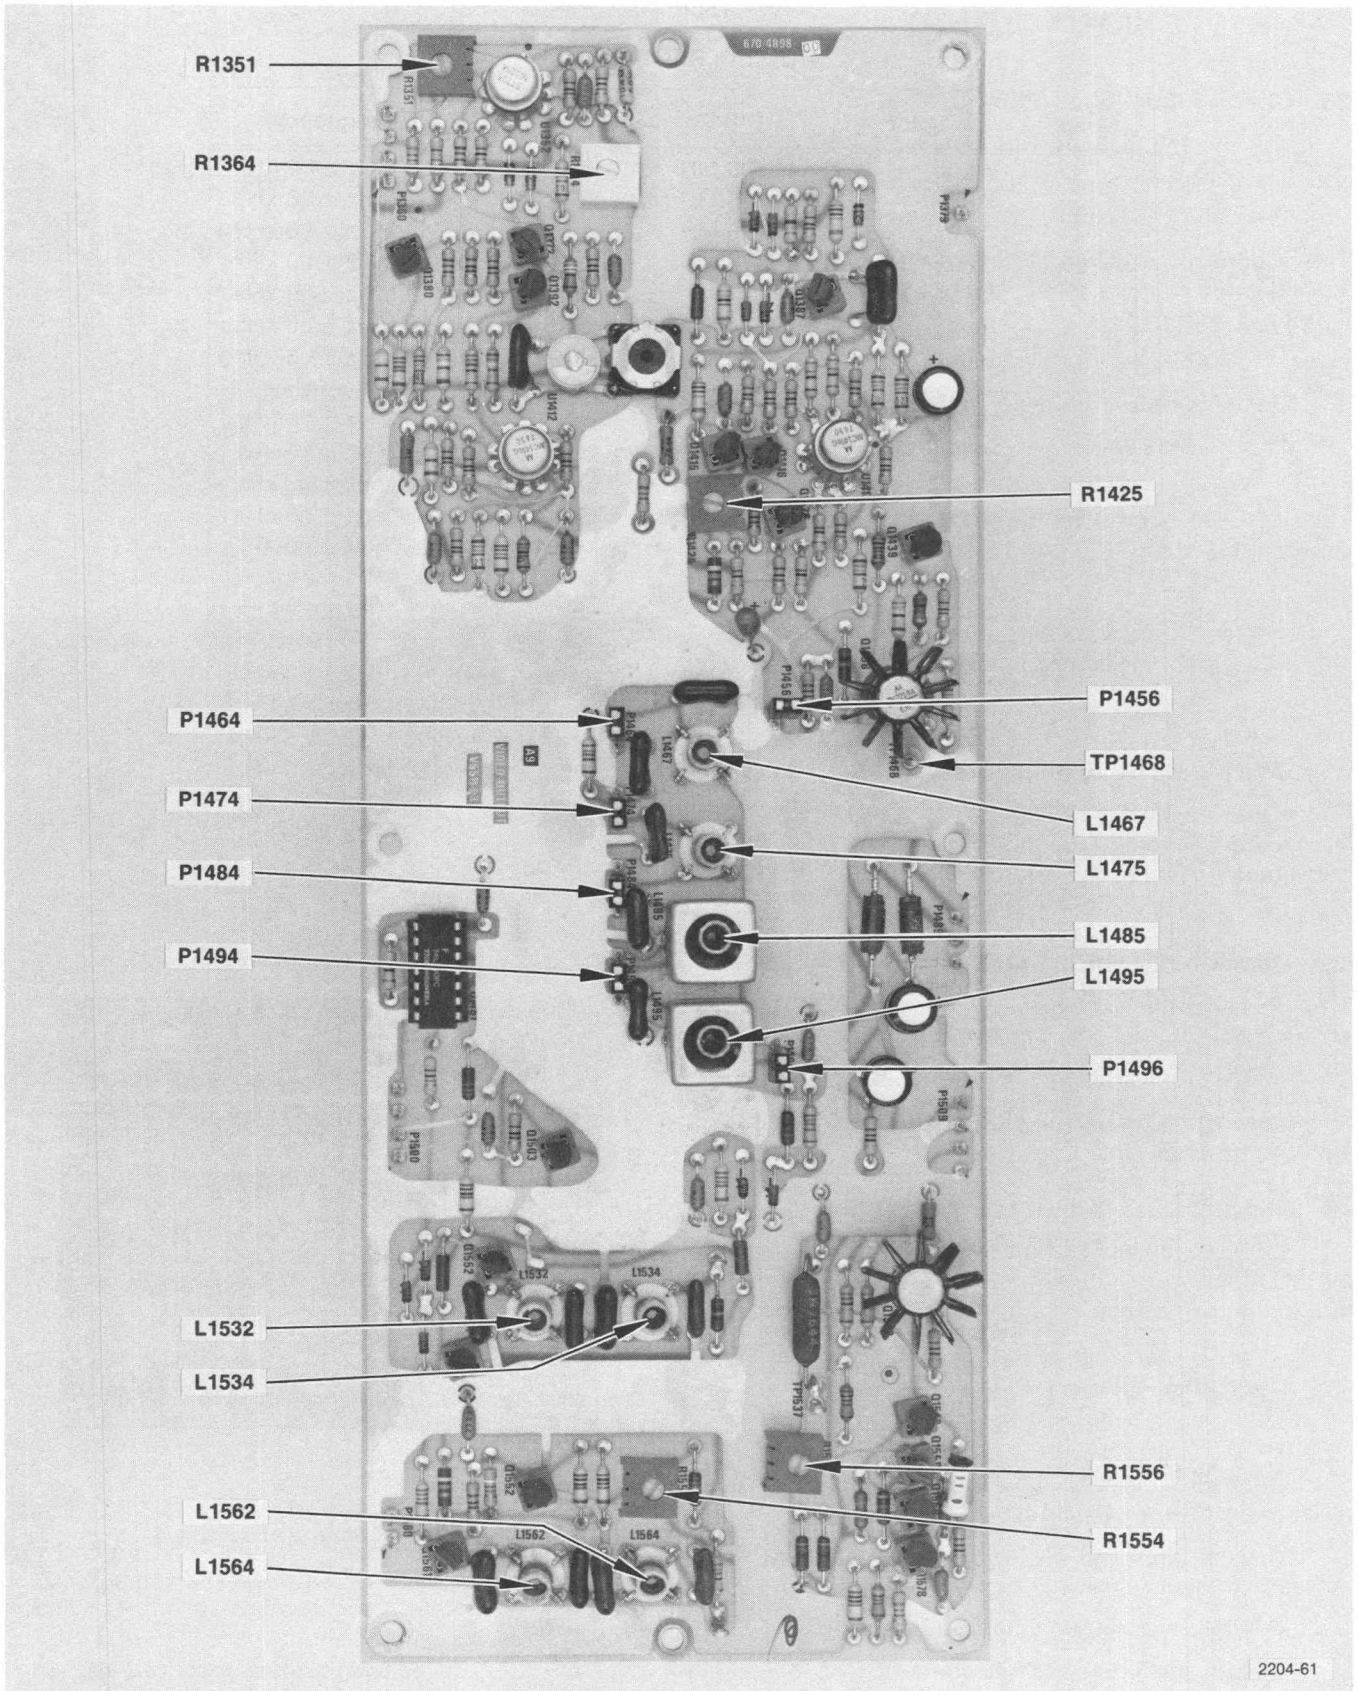

Fig. 6-14. VIDEO Output Circuit Board.
- e. ADJUST—the Sync Filter, L1532 and L1534 (Fig. 6-14) for the best transient response.
- c. ADJUST—the Luminance Filter, L1562 and L1564 (Fig. 6-14) for the best luminance transitions.
- g. ADJUST—Video Gain, R1556 (Fig. 6-14), so that the luminance level is overlaid with the blanking level (700 mV).
- Remove the following plug jumpers, see Fig. 6-14.
b. Connect the test oscilloscope probe to TP1468 (see Fig. 6-14).
- ADJUST—Comparator Level, R1351 (see Fig. 6-14), for minimum 2nd harmonics (7.8 MHz to 9.5 MHz).